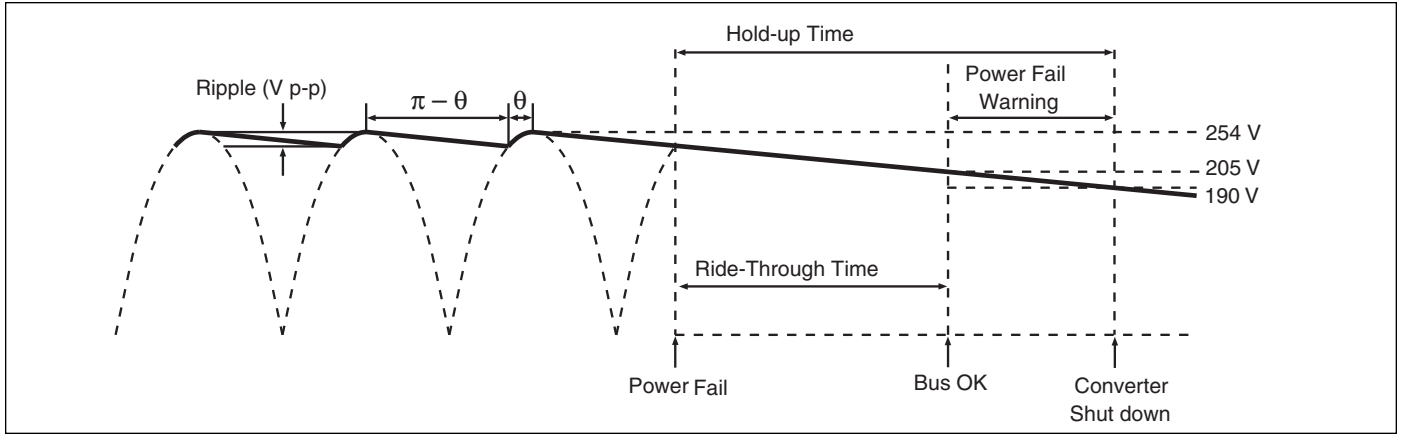
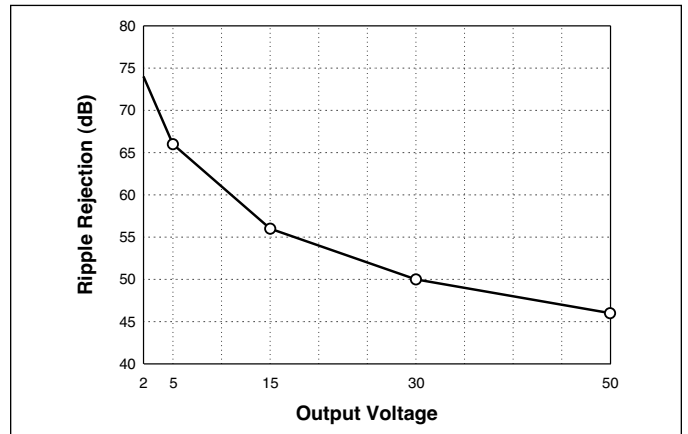

Figure 7-7 — General timing diagram of bus voltage following interruption of the AC mains
Figure 7-11 — Converter ripple rejection vs. output voltage (Typical)
**Hold-up Capacitors.** Hold-up capacitor values should be determined according to output bus voltage ripple, power fail hold-up time, and ride-through time. (Figure 7-7) Many applications require the power supply to maintain output regulation during a momentary power failure of
The power fail warning time ( $\Delta t$ ) is defined as the interval between (BOK) and converter shutdown (EN) as illustrated in Figure 7-7. The Bus OK and Enable thresholds are 205 V and 190 V, respectively. A simplified relationship between power fail warning time, operating power, and bus capacitance is obtained by inserting these constants:
For example, a converter whose output is 15 V and nominal input is 300 V will provide typically 56 dB ripple rejection, i.e., 10 V p-p of input ripple will produce 15 mV p-p of output ripple. (Figure 7-11) Equation 3 is again used to determine the required capacitance. In this case,  $V_1$  and  $V_2$  are the instantaneous values of bus voltage at the peaks and valleys (Figure 7-7) of the ripple, respectively. The capacitors must hold up the bus voltage for the time interval ( $\Delta t$ ) between peaks of the rectified line as given by:
(Figure 7-7)
**Determining the Ripple on the Output of the DC-DC Converter.** Figure 7-11 is used to determine the ripple rejection of the DC-DC converter and indicates a ripple rejection of approximately 60 dB for a 12 V output. If the ripple on the bus voltage is 12 Vac and the ripple rejection of the converter is 60 dB, the output ripple of the converter due to ripple on its input (primarily 120 Hz) will be 12 mV p-p.